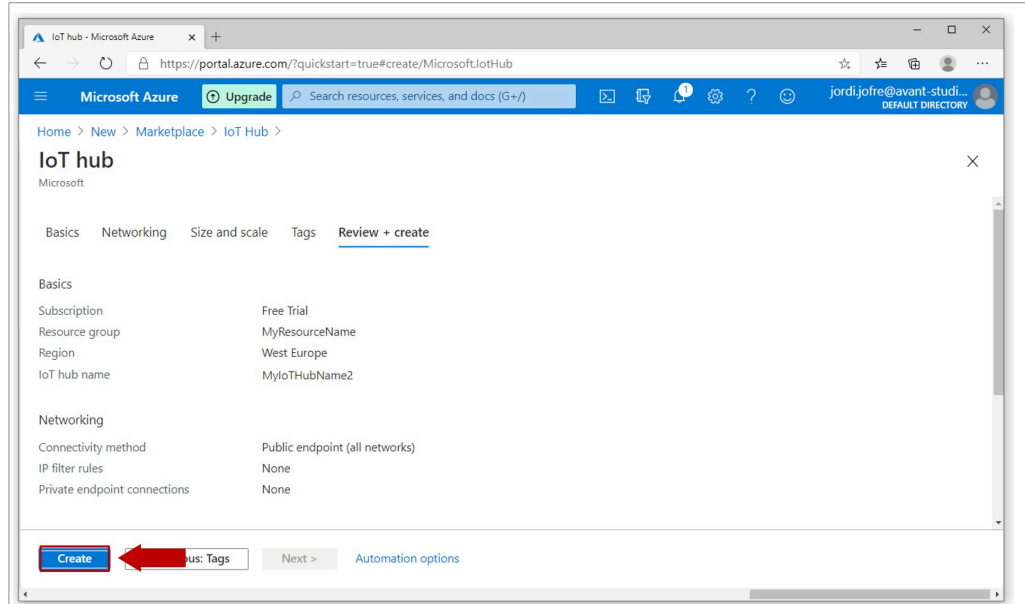

Figure 48. Create an Azure IoT Hub - Review and create form
- 5. On the **Review+create** tab, click **Create** to confirm the Azure IoT Hub creation as shown in Figure 48. You might need to wait a few minutes until your deployment is ready: